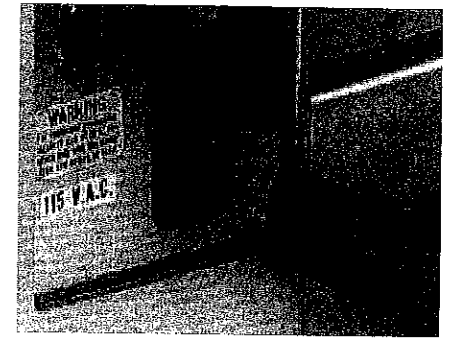

Figure 2: Power Bracket - Voltage Label and AC Power Cord Socket
1. Before plugging in the 2800 Sorter/Counter to your AC power outlet, make sure the AC voltage is within +15% or -10% of the voltage listed on the label next to the power socket on the back of the machine. (See Figure 2 on the next page.)
3. Plug the socket end of the power cord into the socket located at the back of the counter. (See Figure 2 on the next page.)